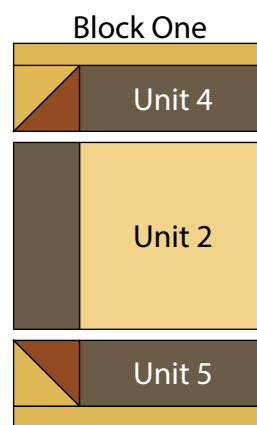

Fig. 8
6. Sew together (1) Unit 4 strip, (1) Unit 2 strip and (1) Unit 5 strip, lengthwise and in that order from top to bottom, to make (1) 12" x 17" Block One rectangle (Fig. 8).